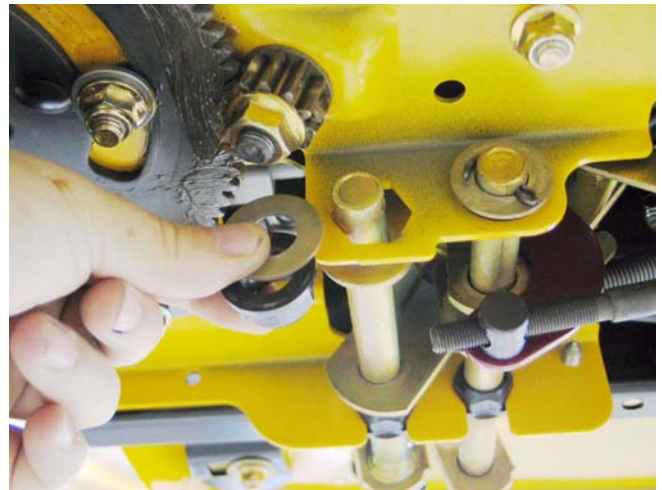

Figure 32.32
32.32. The inboard brake pedal shaft bushing can be removed by removing the cotter pin and washer that secure it. See Figure 32.32.